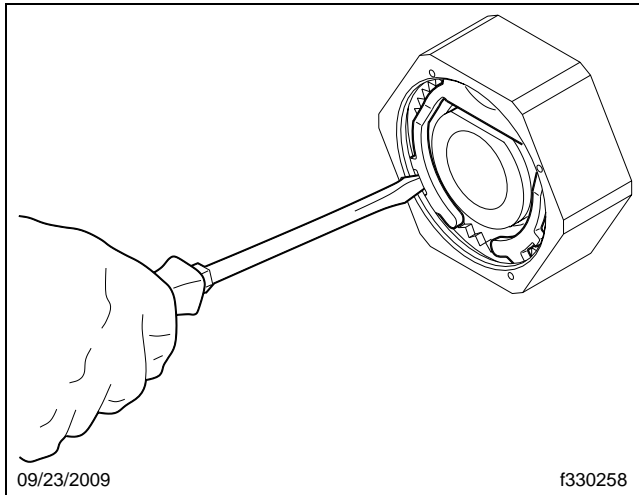

Fig. 19, Removing the Keeper
1. Insert the blade of a flathead screwdriver (or similar tool) in the slot of one of the keeper arms; see **Fig. 19**. Ensuring that the tool contacts the keeper and not the teeth of the nut, turn the tool slightly and carefully pry the arm from the undercut groove of the nut.